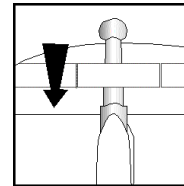

Figure 32
2. Push toggle completely down through webbing slot. **See figure 32.**